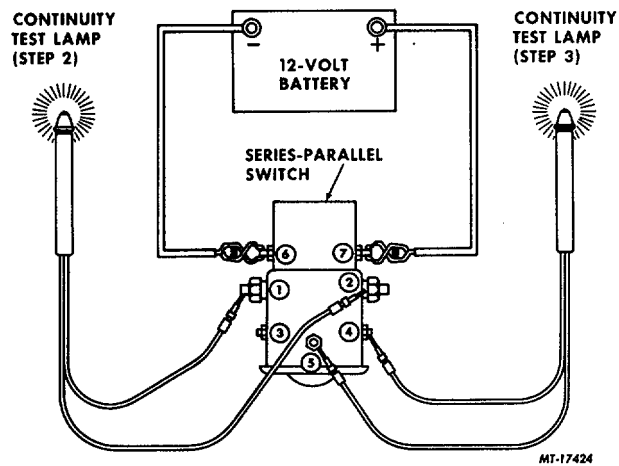

Figure 7 Battery and Test Lamp Connections for Making Cranking Terminal Continuity Test.
1. Connect 12 volt battery between terminals 6 and 7 (Figure 7).
2. Connect continuity test lamp between terminals 1 and 2 (Figure 7). Test lamp should light.
3. Connect continuity test lamp between terminals 4 and 5 (Figure 7). Test lamp should light.